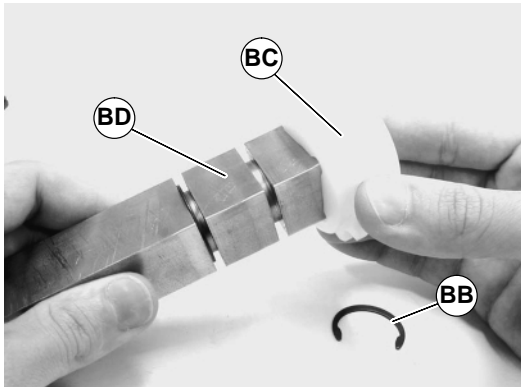

Figure 34
- Remove snap rings (BB of Figure 34). Slide drive sprocket (BC) off the end of pulley (BD).